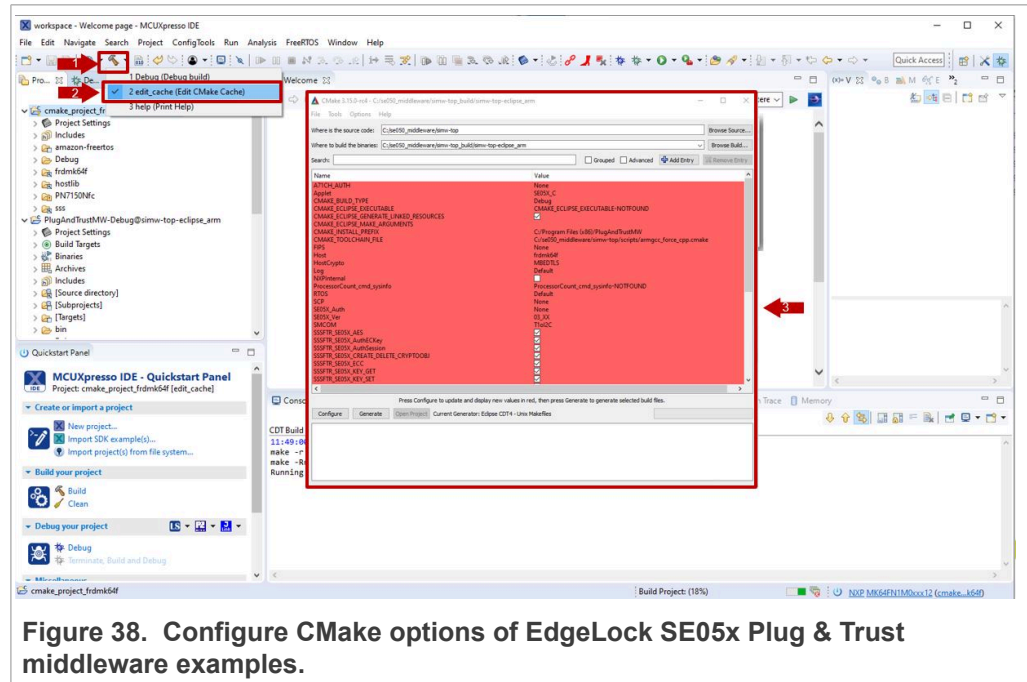

Figure 38. Configure CMake options of EdgeLock SE05x Plug & Trust middleware examples.
- The CMake GUI window will open in your screen as shown in Figure 38. Using this GUI, you can change the CMake options (if needed).